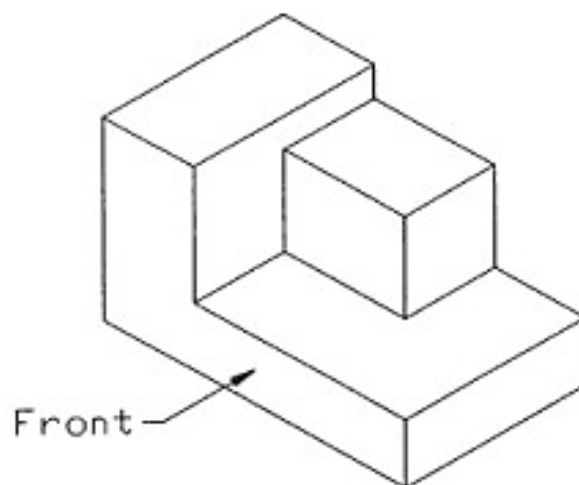

Figure 2
11. Figure 2 shows an isometric view of a wooden block. Sketch the views in third angle orthographic projection. (6 marks)